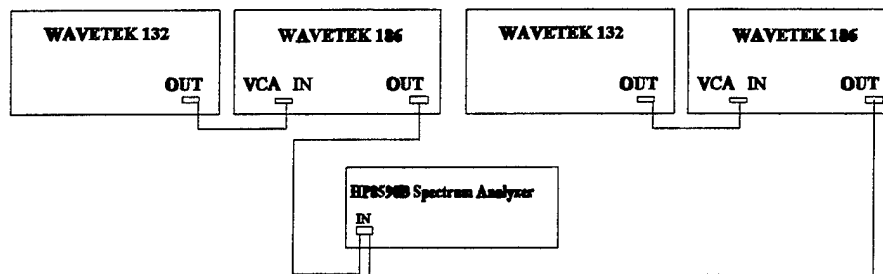

Figure 1
c) Using a T-connector, connect both of the AM signals from the Wavetek 186's to the input of the spectrum analyzer. This will add the signals together. Your configuration should now look like Figure 1.